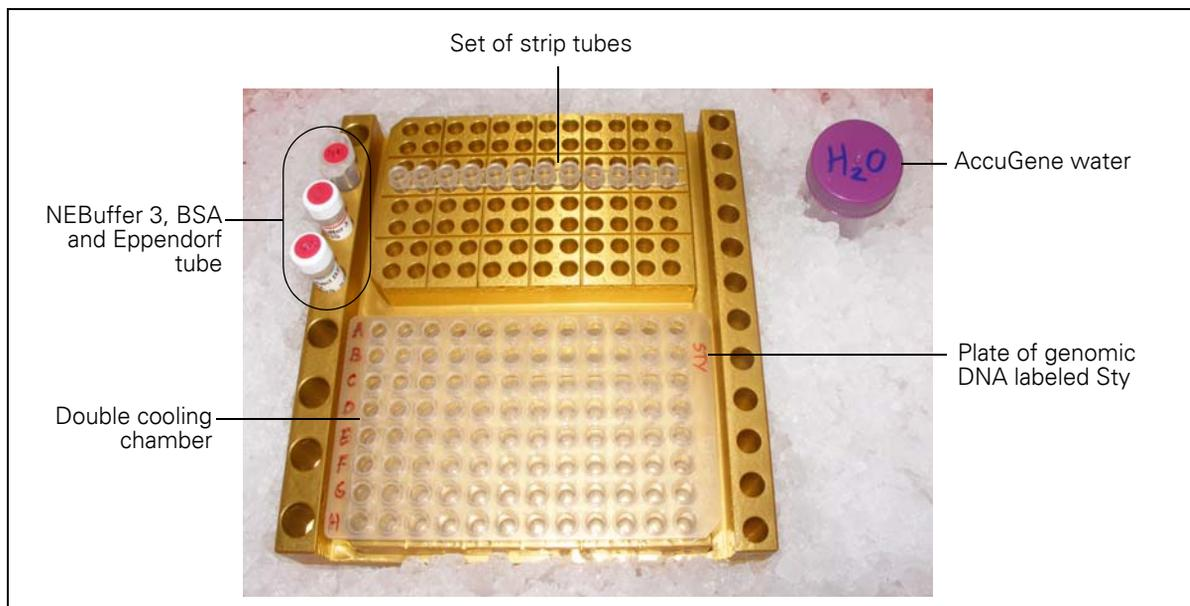

Figure 5.3 Work Area Prepared for Processing Samples with Sty Digest Mix (Sty Enzyme Not Pictured; Still at -20°C)
1. Place a double cooling chamber and a cooler on ice (Figure 5.3 on page 151).